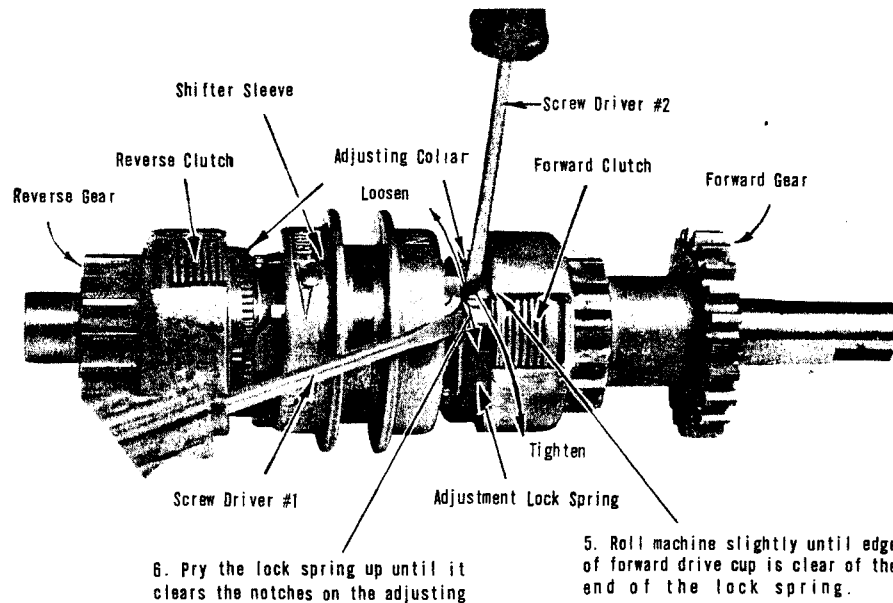

FIGURE 4 B
- (e) Rotate the input shaft until the square end of the adjustment lock spring is visible through the inspection hole. See Fig. 4-B.
- (g) Place the end of one screw driver under the edge of the lock spring. Using the shifter sleeve as a heel, pry the lock spring up until it clears the notches on the adjusting collar. See Fig. 4-B. Do not twist the screw driver as it will catch in the notches of the adjustment collar.
weeks of operation. When the transaxle will not pull or lock in gear, it is an indication that adjustment is needed. When properly adjusted, the transaxle will lock in gear with the clutch lever moving the distances indicated in Fig. 4-A.